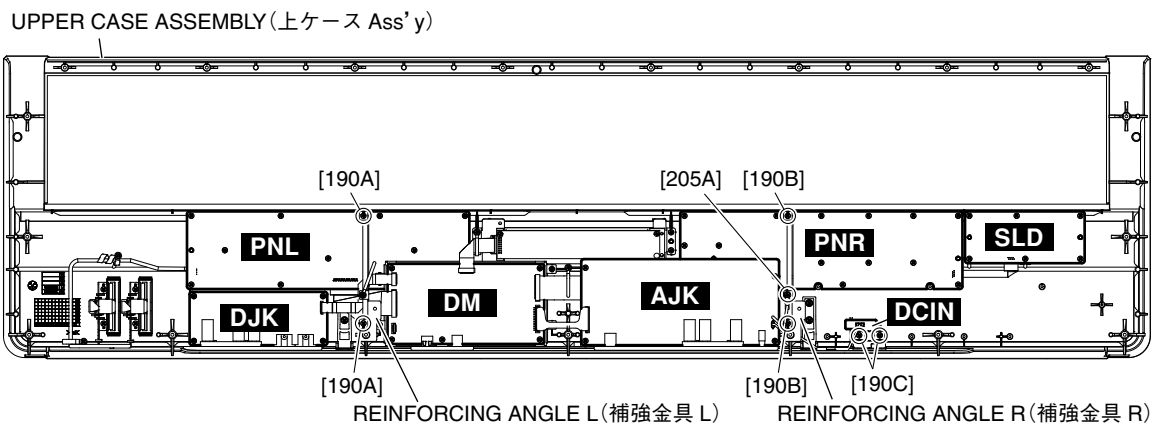

Fig. 3 (図 3)
- 2-2. Remove the two (2) screws marked [190A]. The reinforcing angle L can then be removed. (Fig. 3)
- 3-2. **CP4 STAGE:** Remove the two (2) screws marked [190B]. The reinforcing angle R can then be removed. (Fig. 3)
- CP40 STAGE:** Remove the two (2) screws marked [190B] and the screw marked [205A]. The reinforcing angle R can then be removed. (Fig. 3)
- 2-2. [190A] のネジ 2 本を外して、補強金具 L を外します。(図 3)
- 3-2. **CP4 STAGE:** [190B] のネジ 2 本を外して、補強金具 R を外します。(図 3)
- CP40 STAGE:** [190B] のネジ 2 本と [205A] のネジ 1 本を外して、補強金具 R を外します。(図 3)
- 4-2. Remove the two (2) screws marked [190C]. The DCIN circuit board can then be removed. (Fig. 3)
- 4-2. [190C] のネジ 2 本を外して、DCIN シートを外します。(図 3)